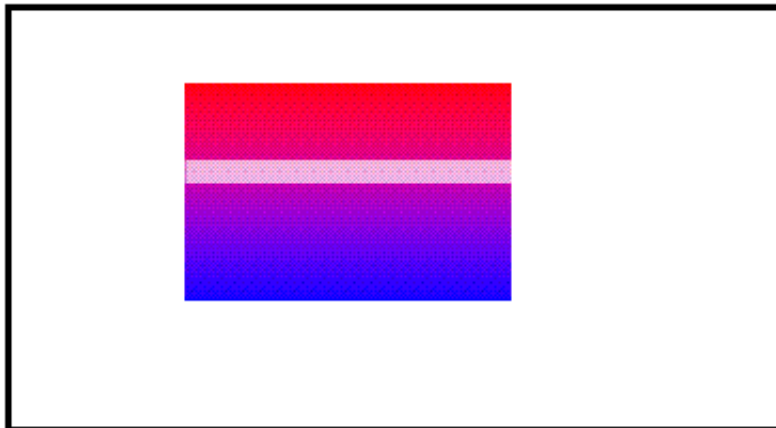

Figure 9. CTRLDESCLn_5 and CTRLDESCLn_6 Register
5. Configure the chroma-keying ranges using CtrlDescLn_5 and CtrlDescLn_6. These registers are used to define which colors of pixels are selected within the graphic. They define the maximum and minimum POSY POSX ADDR values for each color component of the selected pixels. The behavior of the selected pixels is controlled using CtrlDescLn_4. Figure 9 illustrates an example in which pixels of a certain color range are selected and then made partially transparent.